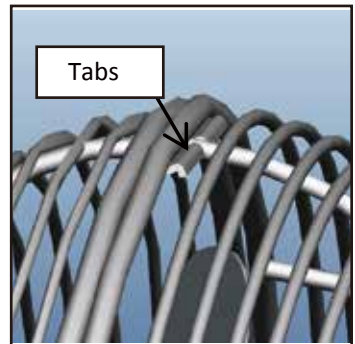

Figure 5.
- Place the **Front Grille** against the **Back Grille** and push them together until the tabs on the grilles hold them together. **Figure 5**